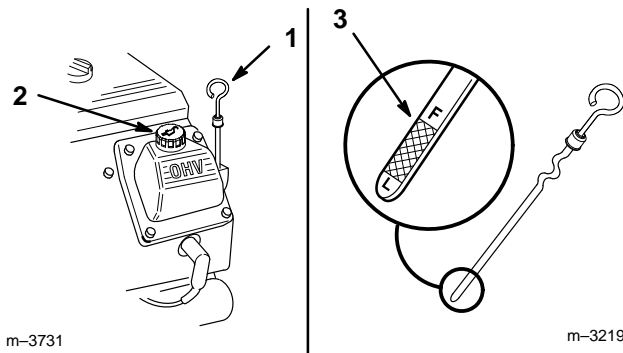

Figure 16
2. Clean around the oil dipstick (Fig. 16) so dirt cannot fall into the filler hole and damage the engine.
3. Unscrew the oil dipstick and wipe the metal end clean (Fig. 16).
4. Slide the oil dipstick fully into the filler tube, do not thread onto tube (Fig. 16). Pull the dipstick out and look at the metal end. If oil level is low, slowly pour only enough oil into the filler tube to raise the level to the “FULL” mark.
5. Slowly pour approximately 80% of the specified amount of oil specified, page 23, into the filler tube (Fig. 16). Now check the oil level; refer to Checking Oil Level, page 24. Slowly add additional oil to bring to “FULL” mark on dipstick.